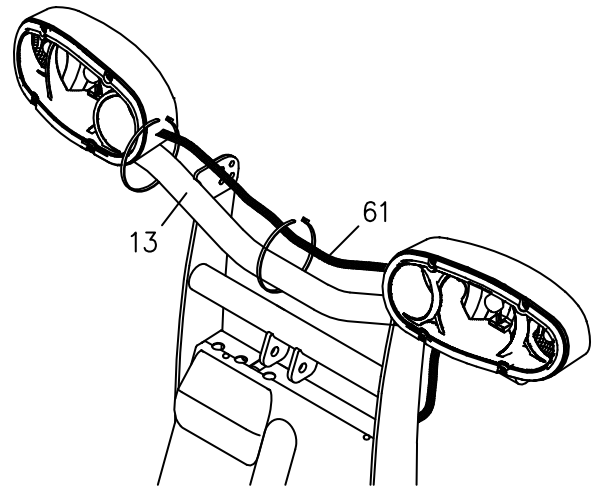

Figure 10. Securing Wiring Harness G10126
21. Secure Wiring Harness (61) to Light Bar (13) using wire ties as shown in Figure 10.